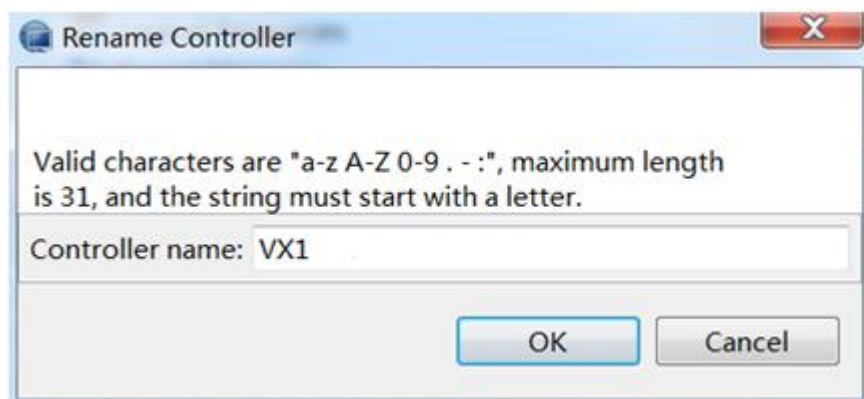

Figure 10-6 Setting the controller name
- (1) Right click the **hostname** node of the storage controller, select the **[Server Maintenance > Rename Controller]** menu, and input the new name of controller into the popup dialogue box, as shown in the Figure10-6;
- (2) Unless otherwise specified, please follow the format - "**Abbreviated name of Office Name - Equipment Coding**" to name the controller. For example, if the office is University of California, Berkeley, and only an equipment is available (equipment coding is 1), then the name of the storage controller is UCB-1.